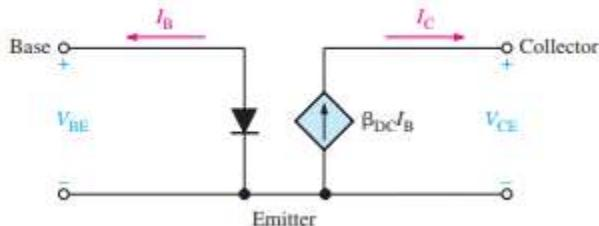

Fig. 2.4 Ideal dc model of an npn transistor
- The unsaturated BJT is a device with current input and a dependent current source in the output circuit, as shown in Fig. 2.4 for an npn. The input circuit is a forward-biased diode through which there is a base current. The output circuit is a dependent current source (diamond-shaped element) with a value that is dependent on the base current, I_B , and equal to $\beta_{DC}I_B$.